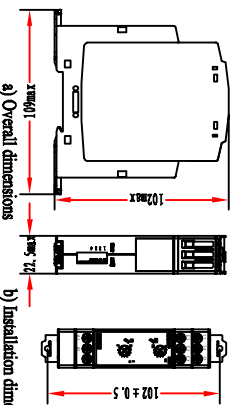

Figure 1 Overall Dimensions and Installation Dimension of NJB1-YW Floatless Relay
4.10 Overall dimensions and installation dimension are provided in Figure 1.